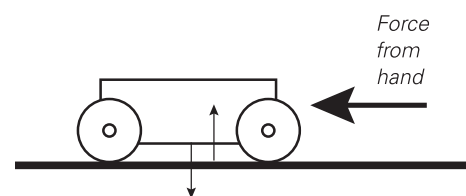

Figure 3
11. Explain that the class will now work together to draw a force diagram for a moving object. In a location visible to all students, demonstrate giving a car a push as shown in the diagram (figure 3). After the force is applied by a hand and the car is in motion (in this case, the hand has pushed the car to the left), what forces are acting within the system? \*\* The car is not moving up or down, so the force of the car on the table and the force of the table on the car are still equal and opposite and add up to zero. The car is moving to the left, but it slows to a stop. The rightward force of friction is slowing the car down. The sum of the forces on the car is not zero, so the object is in motion, but since the force acting up the car is opposite its motion, it slows down and eventually stops. Use the arrows and tape to help students visualize these force vectors. Ask students to draw a force diagram for a car in motion in their science notebooks.